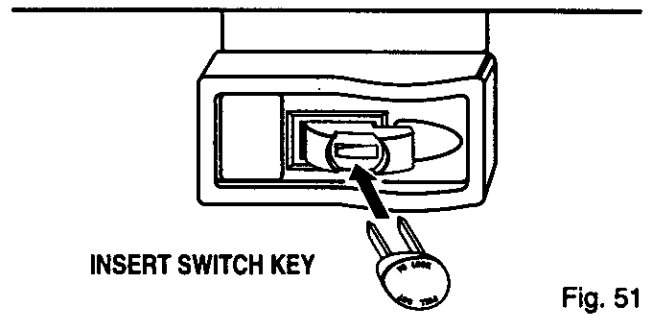

Fig. 51
- Check that the wood is not touching the blade. Insert switch key and lift switch to **ON** position. See *Figures 51 and 52*.